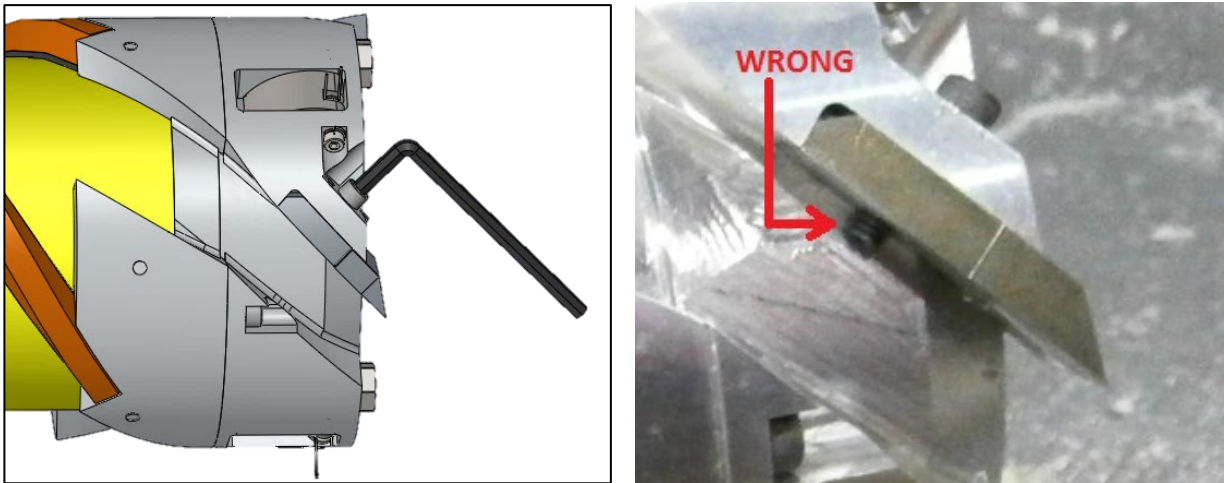

Figure 5: One-Piece Steel Cutter Installation and Removal
7.1.2.1 Using the 5/64-inch Allen wrench, remove the 8-32 socket head cap screw (Figure 5).
7.1.3.2 Install the socket head 8-32 cap screws and tighten them with the 5/64-inch Allen wrench. Use the 1/2" long screws (shorter of included lengths) so that the end of the screw is nearly flush with the cutter (Figure 5).
7.1.4.1 Using the 5/64-inch Allen wrench, remove the 8-32 socket head cap screw (Figure 5).